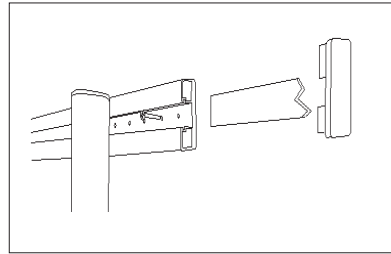

Figure 6a
1. Remove one end cap from each horizontal crosspiece of the frame with a flat-head screwdriver. Slide out the cover strips to access the bolt holes (see Figure 6a). Fasteners are not included. Use fasteners to suit wall construction. Installation must be adequate to support a 250 lb.(113 kg) user.